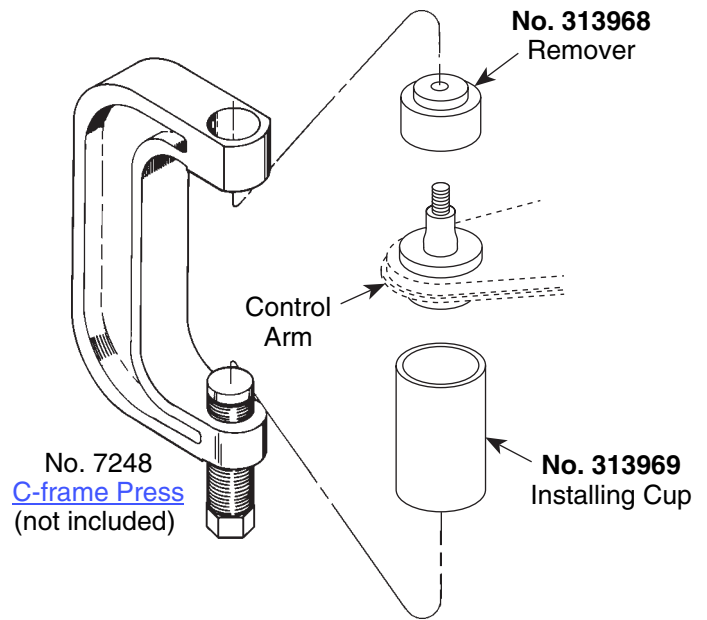

Figure 1
2. Assemble the ball joint press over the control arm as shown in Figure 1.